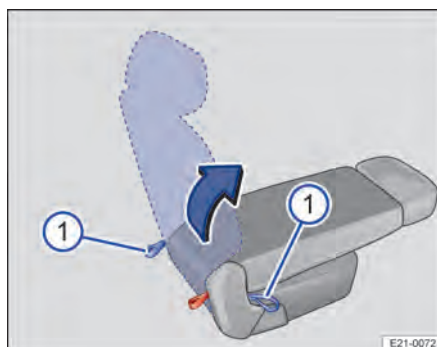

Fig. 69 Second row of seats: folding backrest forward and back.
4. Pull one of the loops → Fig. 69 ① behind the seat or at the side of the seat forwards and hold. Fold the backrest forward a little and release the loop.
1. Pull one of the loops behind the seat or at the side of the seat forwards and hold → Fig. 69 ①. Fold the backrest up a little and release the loop.